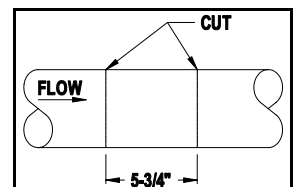
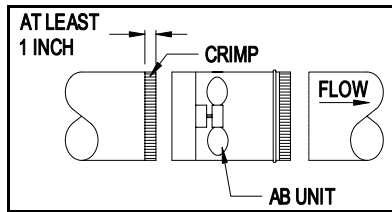

Figure 2
Figure 3
2. An alternative method is to cut a 5-3/4" section out of the duct pipe. (See Figure 2) Then crimp the end of the duct pipe with at least 1" crimp. (See Figure 3)
3. Install the Air Booster unit with the crimped end pointing toward the problem area. (See Figure 3) Secure the unit with sheet metal screws and seal joints with duct tape. Support the unit with an acceptable hanging method.